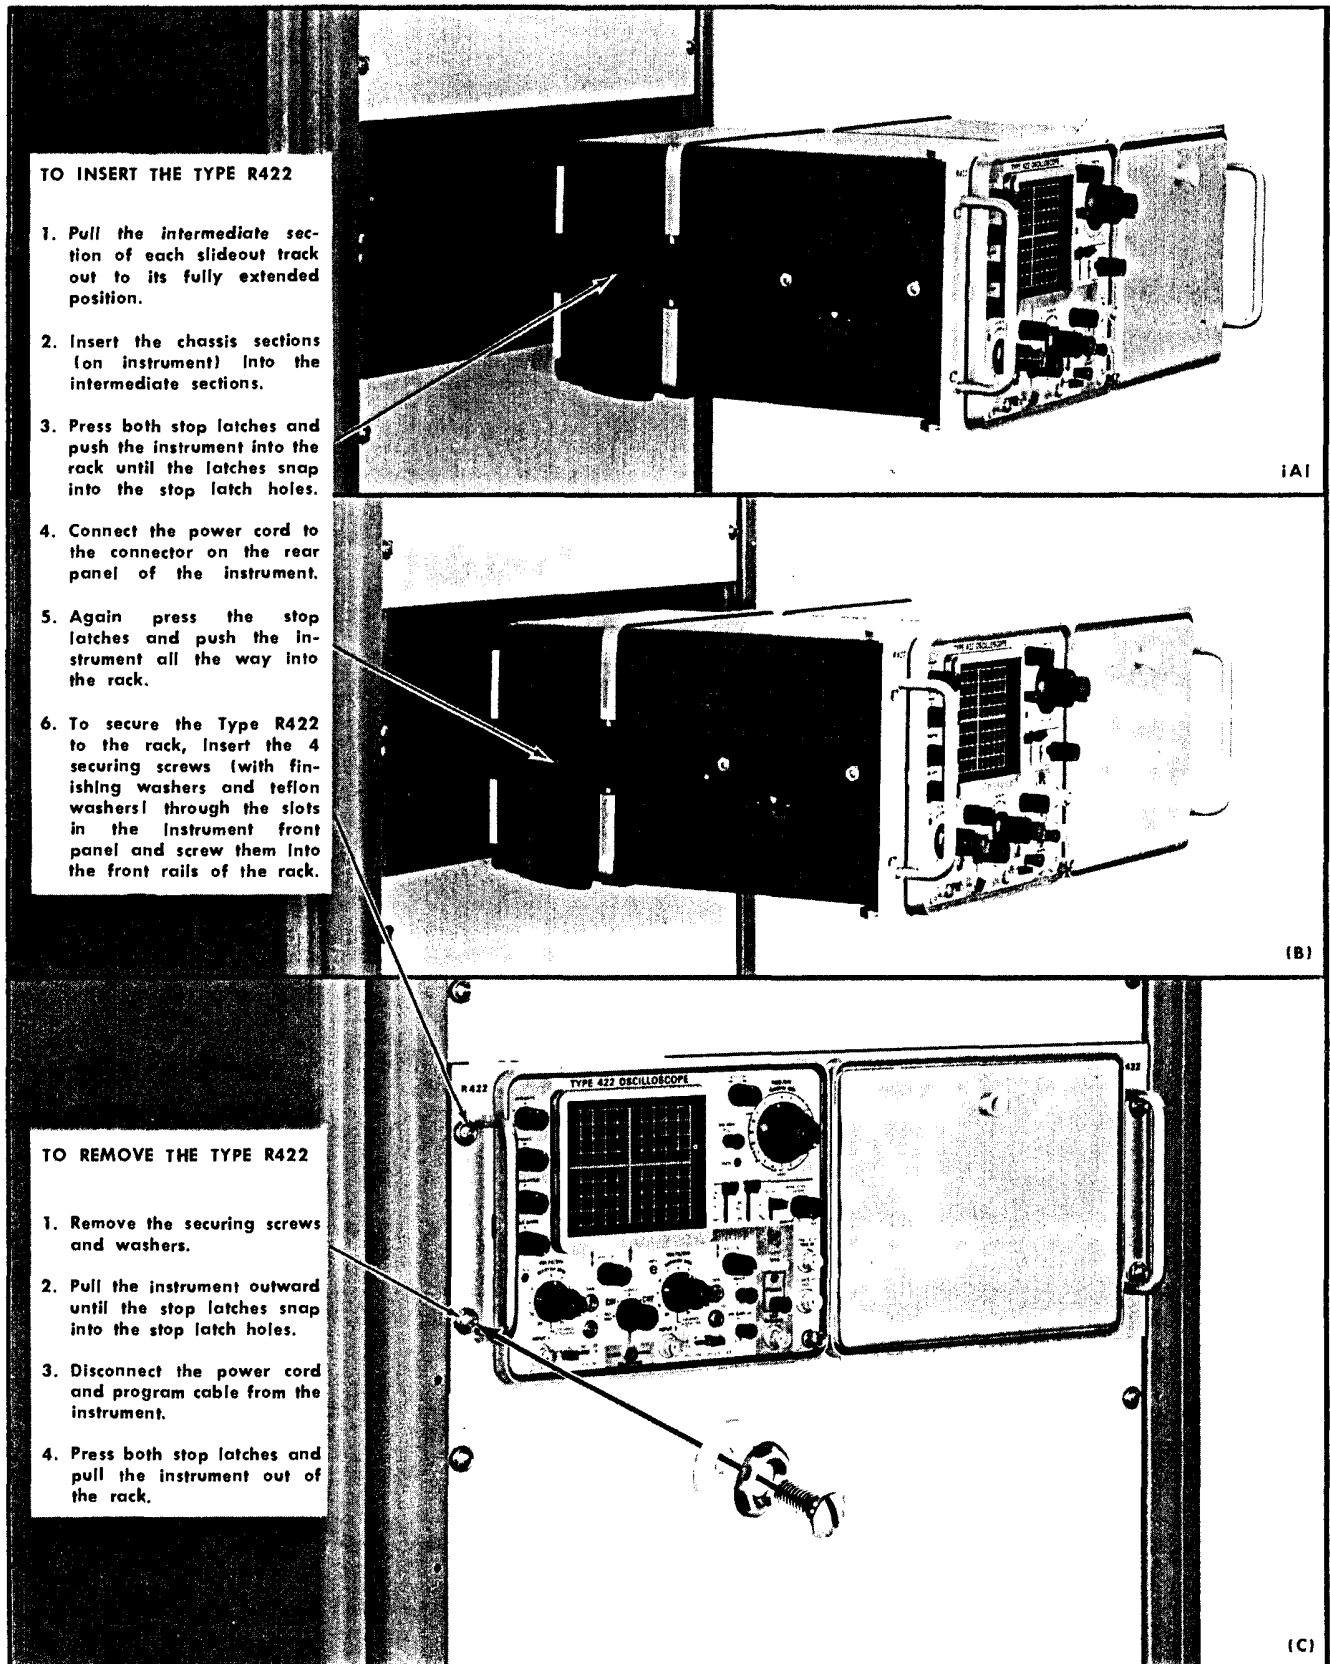

Fig. 10-9. Procedure for Inserting or removing the instrument after the slide-out tracks have been installed.
5. Refer to Fig. 10-9 to insert the instrument into the rack. Do not connect the power cord or install the securing screws until all adjustments have been made.